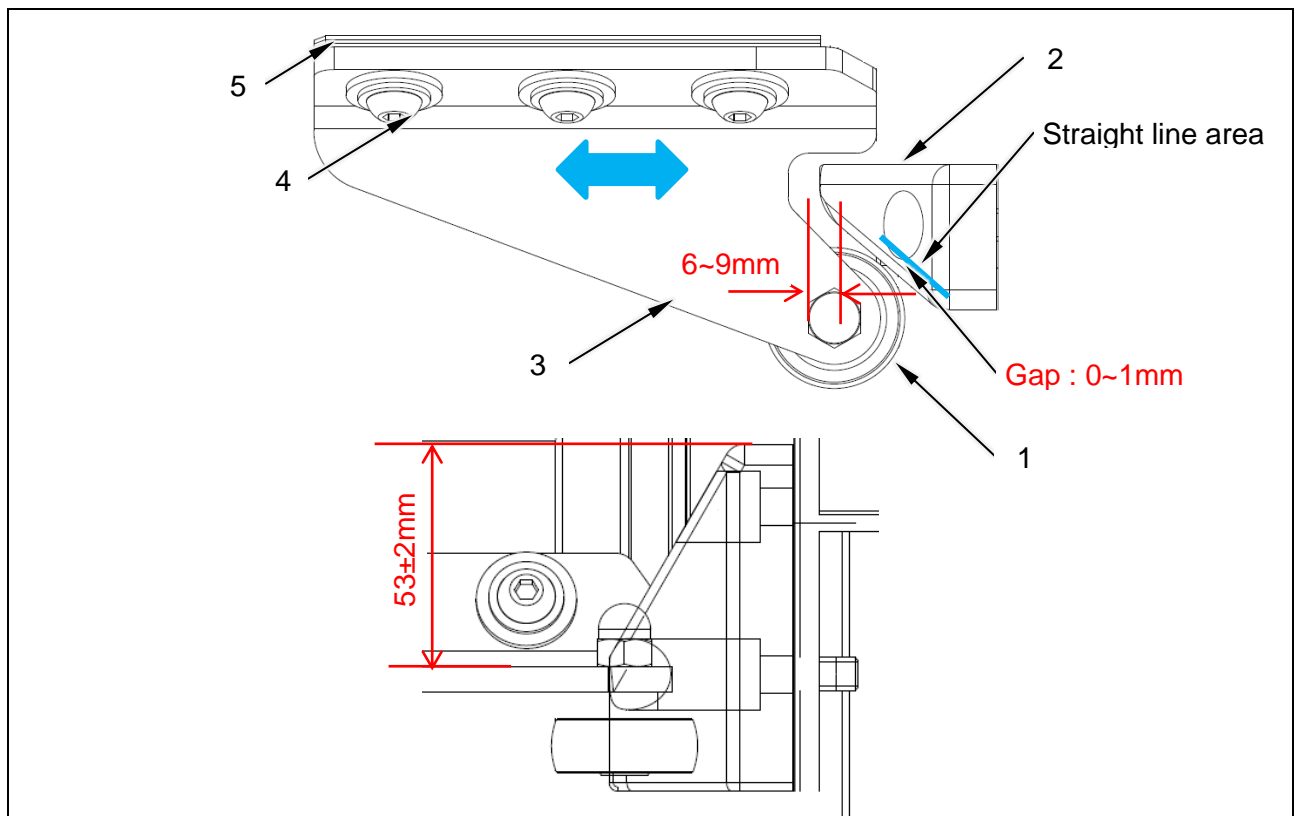

Figure 26 Retention roller check
- 2) Check the gap between the retention roller (item 1, Figure 26) and block (item 2, Figure 26) at the front bottom area of door leaf, which should be 0~1 mm
- 3) Check that the gap between bracket (item 3, Figure 26) and block should be 6~9mm, to ensure that the roller comes into the straight-line area of the block,
- a. Loosen the fixing screw (item 4, Figure 26)
- b. Add or remove the adjusting shims (item 5, Figure 26) and move the bracket (item 3, Figure 26) to get the gap 0~1mm and 6~9mm